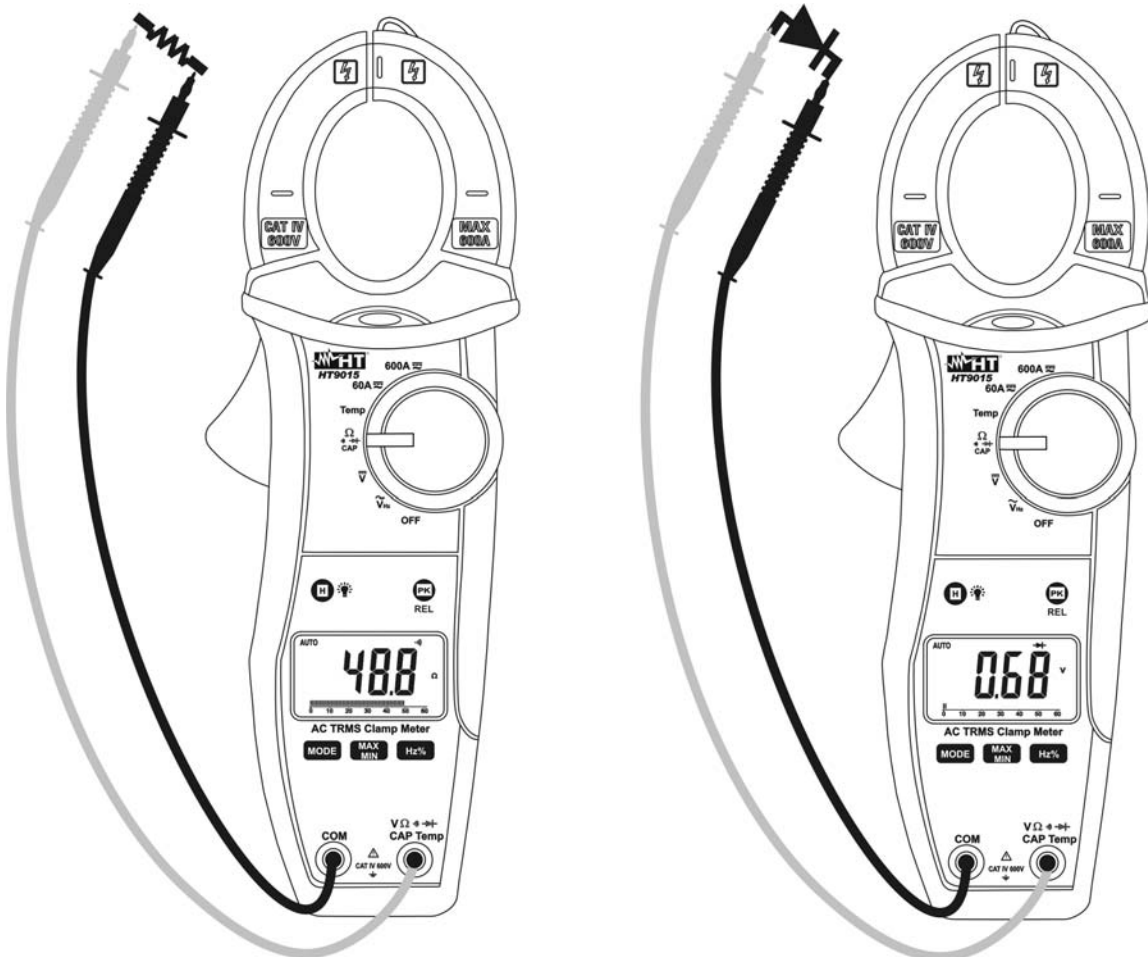

Fig. 10: Taking Continuity test and Diode test
3. Insert the red test lead plug into $V\Omega \rightarrow \text{CAP Hz \% Temp}$ jack and the black test lead plug into **COM** jack and perform continuity test on the object under test (see Fig. 10 – left side). Buzzer emits sound if the measured resistance value is less about 60Ω
5. Connect the red test leads to the anode of diode on test and the black test lead on the cathode ones (see Fig. 10 – right side). Reverse position of test leads to reading reverse polarization voltage